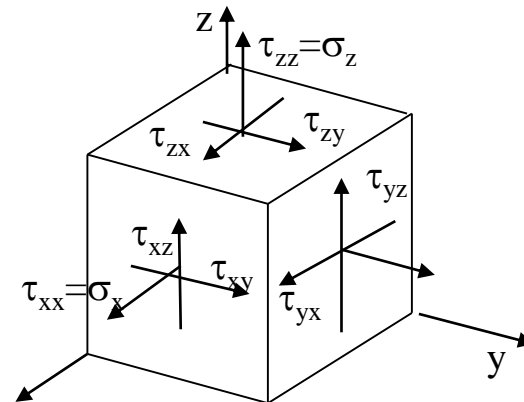

Fig. 6.1. Meaning of the stress tensor components
i.e. the stress tensor (Fig. 6.1)